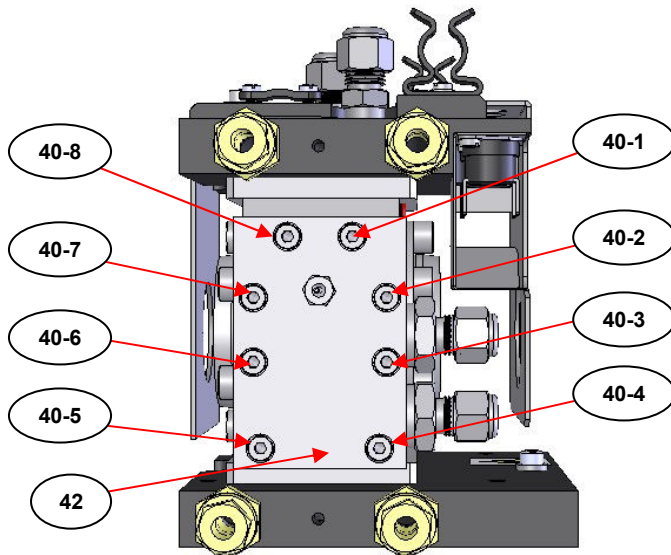

Fig 22. End Plate (42) Fixing Screw Tightening Sequence
Similar to refitting of a pressure certified window assembly (11) for evenness of fit and sealing of the silicone O-ring (35) (see pages 43 and 44), the eight fixing screws (40) for both end plates (38) and (42) need to be tightened in a specific sequence when refitting the end plates to the HTHP Cell body (3). (See Fig 22.)